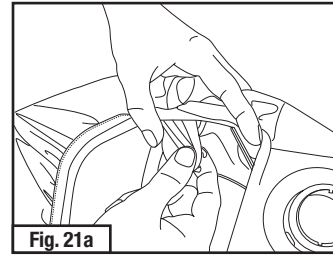
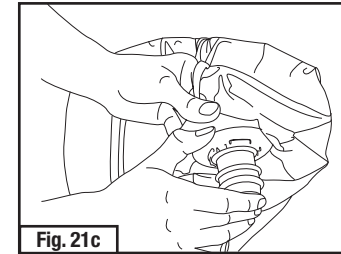

Fig. 21a
Fig. 21c
Dispose of product according to local regulations. The integrated plastic components (head suspension and air inlet) of the S-133, S-433, and S-533 series can be removed for disposal (Fig. 21a, 21b, 21c). On the S-103 and S-403 the plastic air inlet may be removed (Fig. 21c).
- Release the press studs attaching the face seal to the integrated head suspension and remove from the fabric face seal (Fig. 21a).
- Remove the air inlet by detaching from the headtop fabric (this may require the use of a tool) (Fig. 21c).